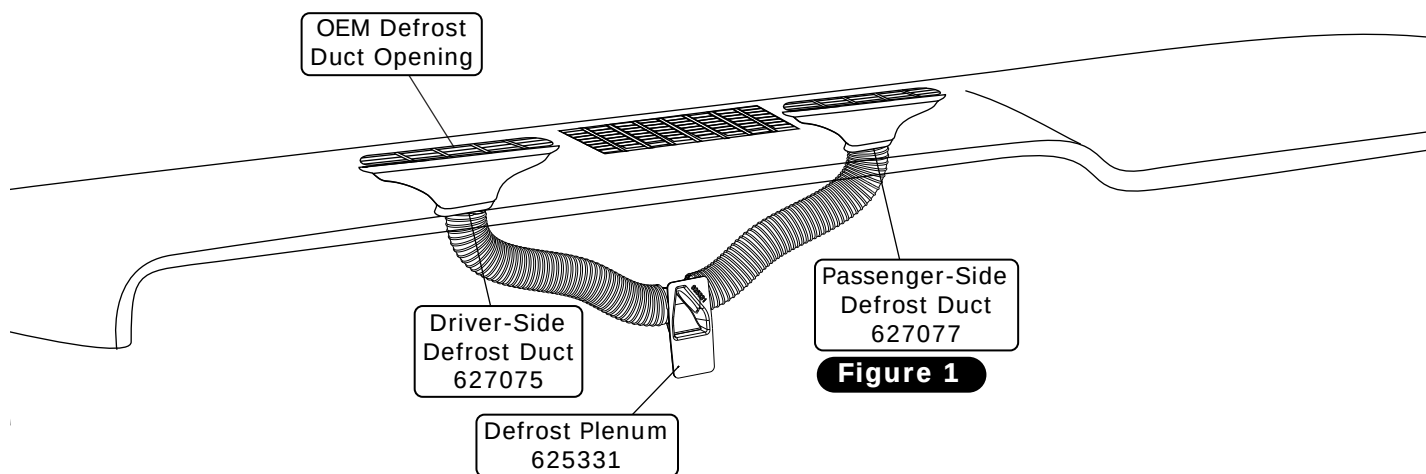

Figure 1
1. Remove the grilles from the defrost ducts by removing (2) 10-32 nuts with star washers on each duct.
4. For preliminary preparation, install the defrost plenum along with the 2" duct hoses at their given lengths (See Figure 1, below). **NOTE: Refer to the Duct Hose Routing, Page 30, for more information in regards for measure and cut procedures.**